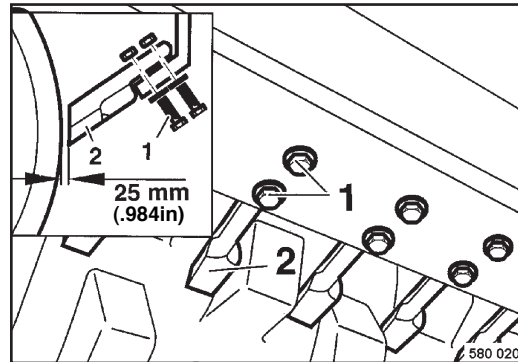

Fig. 103
- Check condition and adjustment of scrapers 2 (Fig. 103), adjust or replace the teeth if necessary.
- To adjust the scrapers (2) slacken the fastening screws (1) in the slots and move the scraper towards the drum, leaving a gap of approx. 25 mm.